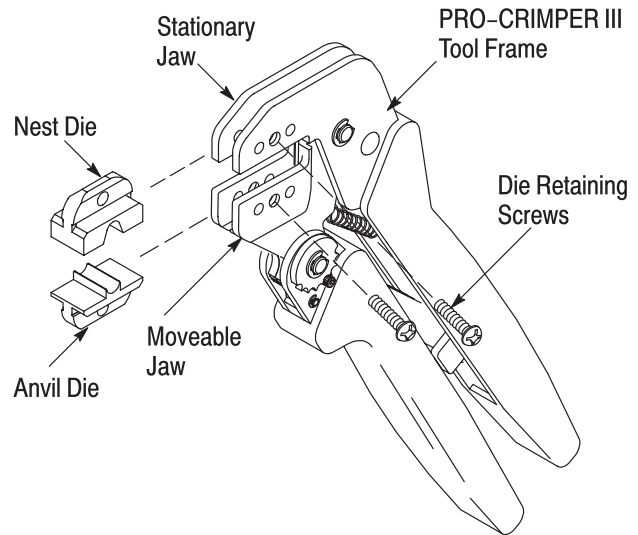

Figure 2
3. DIE INSTALLATION (See Figure 2)
- Added Figure 2